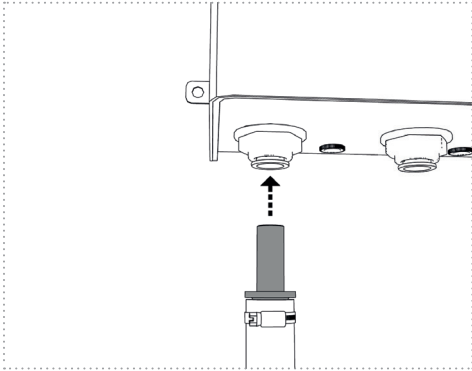
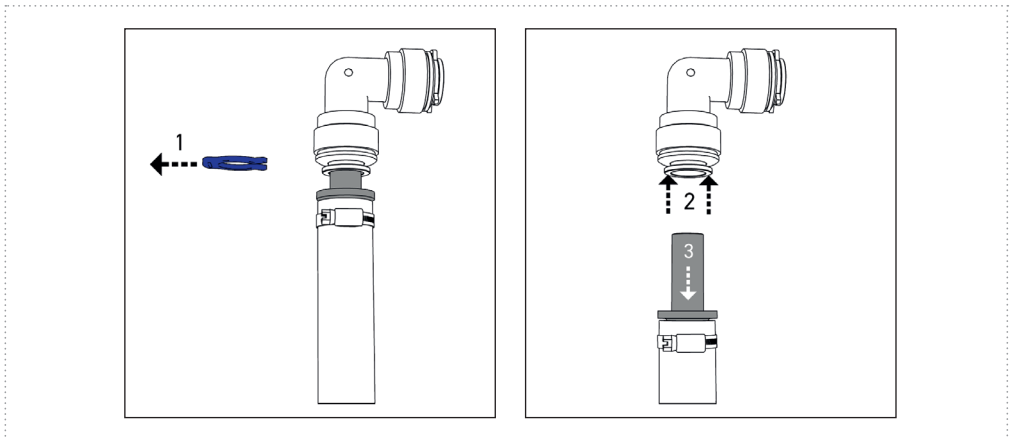

Figure 10a
Figure 13
5. Now guide the hoses directly into the water connections of the UV unit up to the stop (Figures 10a and 10b). In all cases, secure all push-in connections with the included „safety rings“ (Figure 13).
If it becomes necessary to disconnect a push-in connector, please proceed as follows (Figure 13). First, remove the locking ring (1). Push back and hold the retaining element using your fingers or with the aid of a release tool (e.g., the locking ring) (2). The inserted pipe or hose element can now be removed (3).